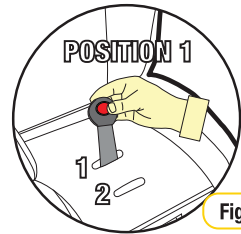

Figure 1
- Step 1:** Lift the buckle and determine whether POSITION 1 (new born) or POSITION 2 (larger child), so it's more appropriate for your baby. (refer Figure 1).
- Step 2:** Ensure the carry handle is folded out of the way and the Hood is fully opened, to enable complete access to the seat (refer Figure 1).